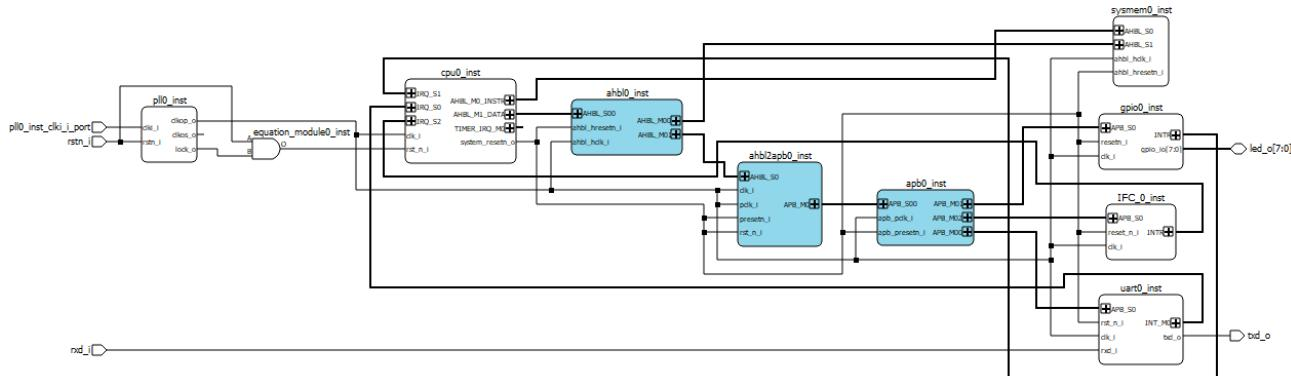

Figure 6.1. Internal Flash Controller IP for MachXO5-NX in Propel SoC Project
- Connect the instantiated IP to the system. Refer to Figure 6.1 for the connections used in this IP. You will need to update other components of the system for clock and reset sources, interrupt, and bus interface.